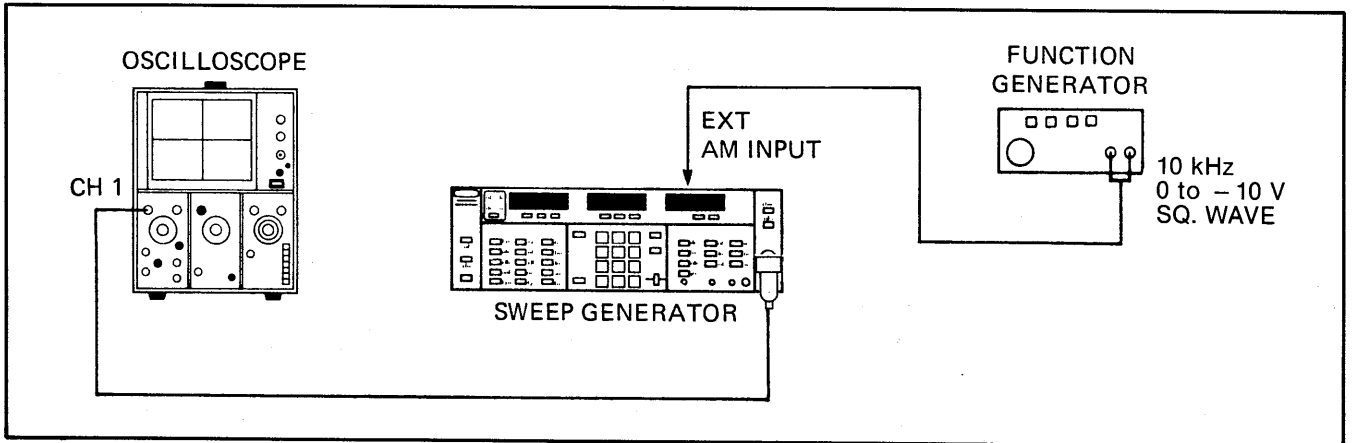

Figure 5-36. Test Equipment Setup for Making ALC Loop Bandwidth Adjustments
1. Set up the test equipment as shown in Figure 5-36, and turn the equipment on.
- (c) Adjust A4R123 and A6R66 (Figure 5-36) for a square wave with no overshoot and a rise time of less than 20 μ s.